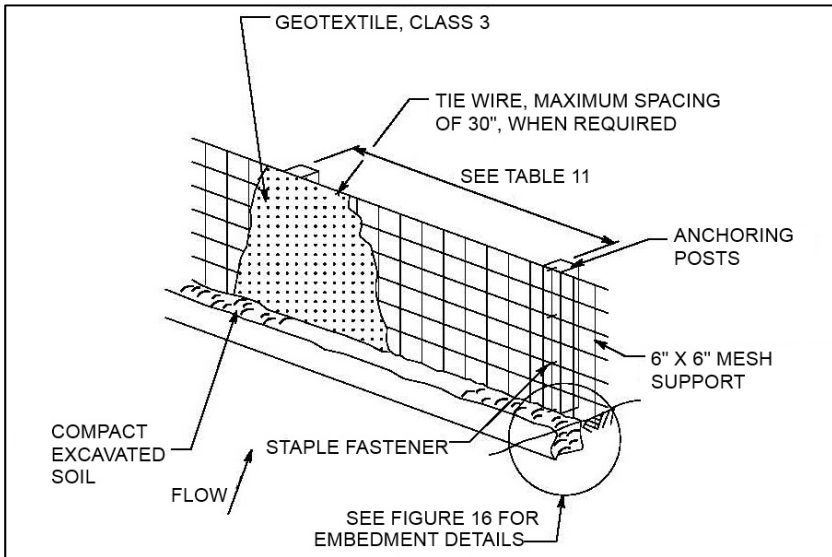

Figure 17: Silt Barrier Fence
- Silt Barrier Fence shall be installed with the required post spacing as shown in **Figure 17**.